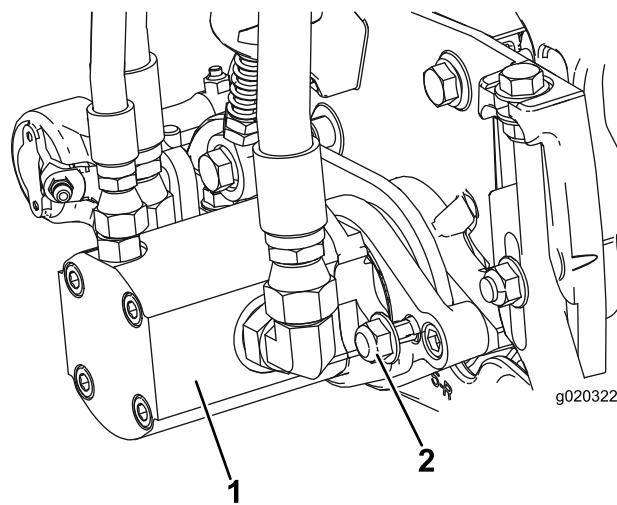

Figure 13
- Install the motor by rotating it clockwise so that the motor flanges clear the locknuts (Figure 13). Rotate the motor counterclockwise until the flanges encircle the nuts, then tighten the nuts.